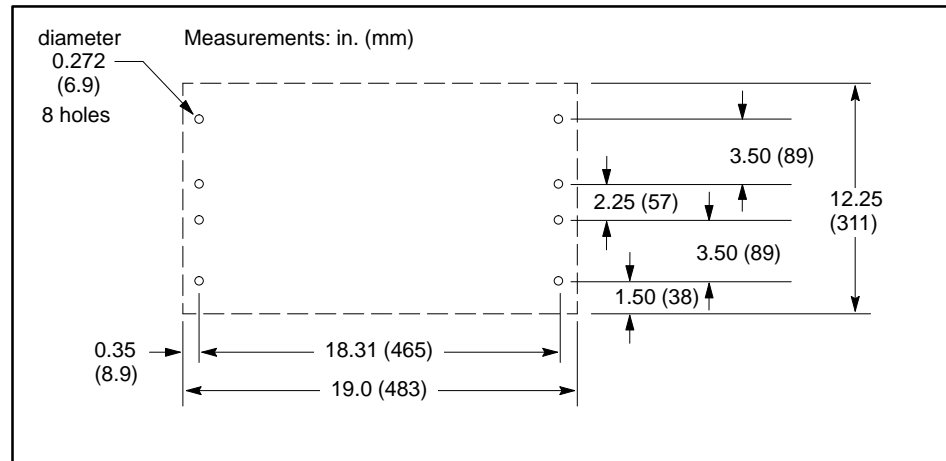

Figure 4-7 VMEbus Base Wall or Cabinet Mounting Measurements
Figure 4-7 shows the measurements required for rear mounting in a NEMA cabinet or mounting against a wall. Rear mounting brackets are included for these mounting options. The cabinet must provide a minimum depth of 12 inches to accommodate cabling from the front of installed modules. Leave clearance of at least 3 inches above and below the base for proper cooling.
2. Drill four holes in sub-panel of NEMA enclosure with a #21 drill bit. Refer to Figure 4-7 for screw-hole dimensions for each base.